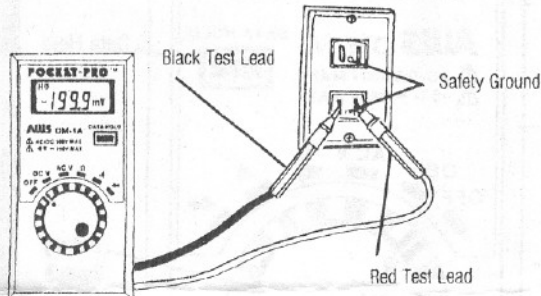

Fig. 2 Taking Voltage Measurements
3. Apply the test lead probe tips to the two points where a voltage reading is to be taken. The meter will automatically select the proper range and display the reading (see Fig. 2)